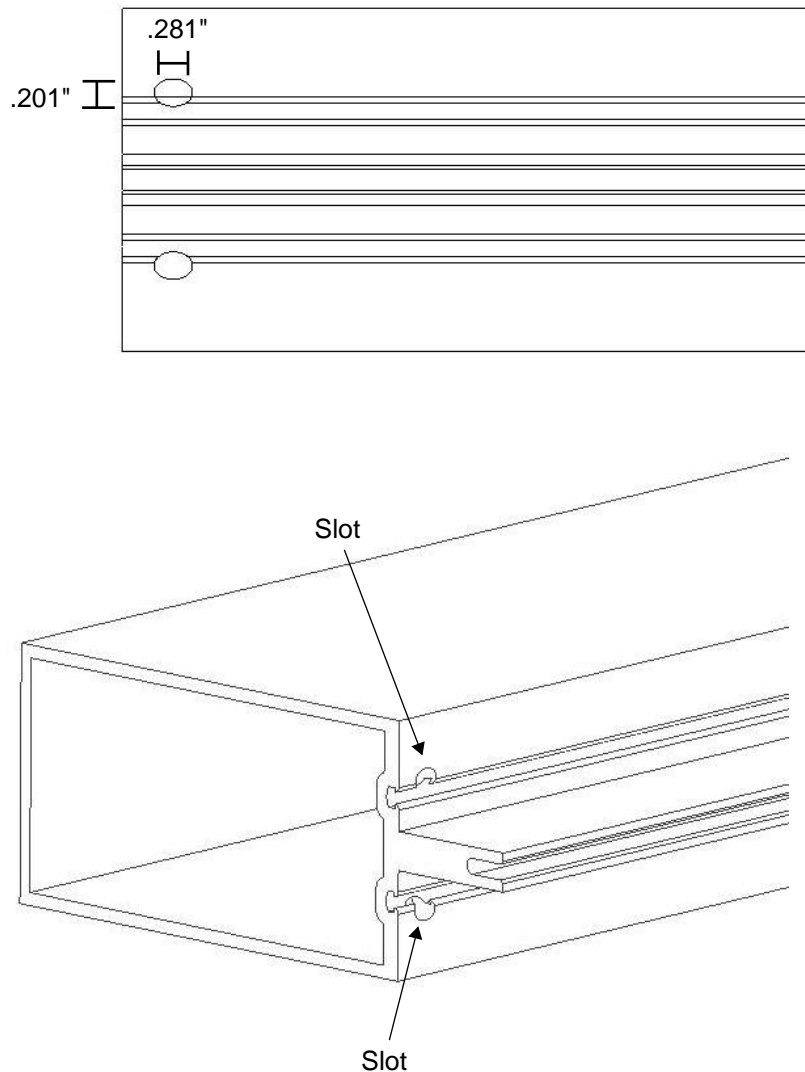

Figure 3: Slot holes in the horizontal back member.
- The slots will be .201" x .281" as shown in Figure 3.